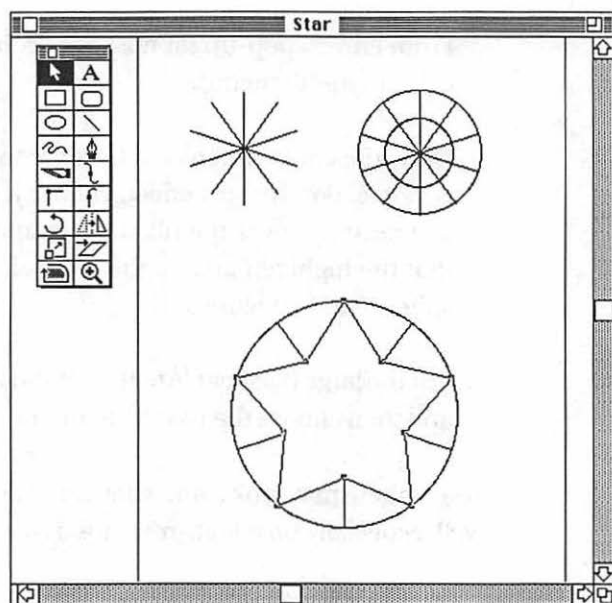

FIGURE 3-5 *The evolution of a five-pointed star, FreeHand version.*
- In FreeHand, clone the line, select the clone, choose the Rotate tool, press the Option Key as you click on the line, and in the Rotate dialog box enter a rotation of 36° and turn on the *Center of Selection* option. After the first rotation, choose DUPLICATE from the Edit menu three times to create a symmetric set of "spokes" (Figure 3-5, top left, on page 112).
2. Draw a circle which is centered on the intersection of all the spokes and whose circumference touches the end of each spoke. Draw another smaller circle inside it, also centered on the intersection point (Figure 3-5, top right). The size of the inside circle depends on how sharp you want your star's points to be; draw a small circle for stiletto points and a not-so-small circle for blunt points. Group the spokes and the circles together.
3. Draw a line from the intersection of the first line and the outer circle to the intersection of the second line and the inner circle, and so on, all the way around the circle (Figure 3-5, bottom). Use the Corner Freeform tool in FreeHand or the Pen tool in Illustrator to make one continuous line that defines a closed shape.